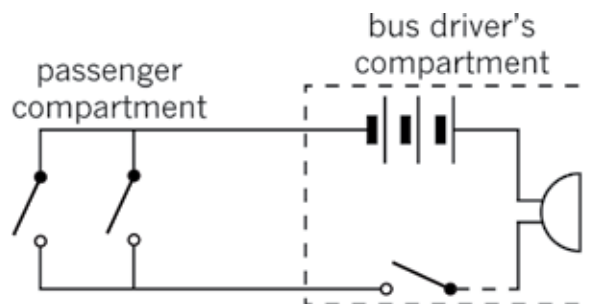

Figure 11: A circuit for passengers to tell the driver that they want to get off
Many buses have push switches for passengers to let the driver know they want to get off at the next stop. The circuit diagram might look like Figure 11. In this circuit diagram, there are two push switches for passengers. Any one of these switches can ring the bell next to the driver.
Hint: Look at Figure 11 again to see how dashed lines were used to show the part of the circuit in the bus driver's compartment. (2)